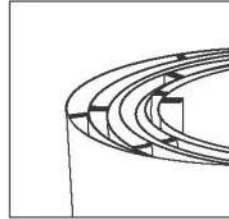

Fig. 2
- B. Connecting: For use when utilizing as a **dual purpose water/root barrier** or tree well application. Connect the ends by overlapping two 6" (15 cm) sections with the leading rib cut directly down the middle and join with staples, friction fit, Century sealant tape or equal: See figure 2 & 3.